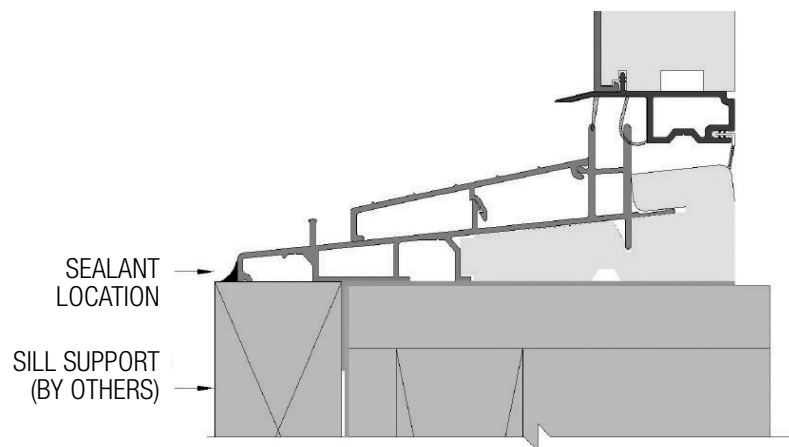

FIG. 16: STANDARD DOOR SILL
- B) Attach a sill support block beneath the sill. Apply a bead of sealant at the nose of the sill and support block. (Fig. 16 & 17)